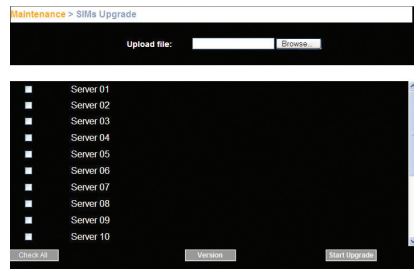

Figure 22 SIM Upgrade
1. From the menu, select "SIM Upgrade". The Upgrade window should appear, showing the current firmware version (see Figure 22).